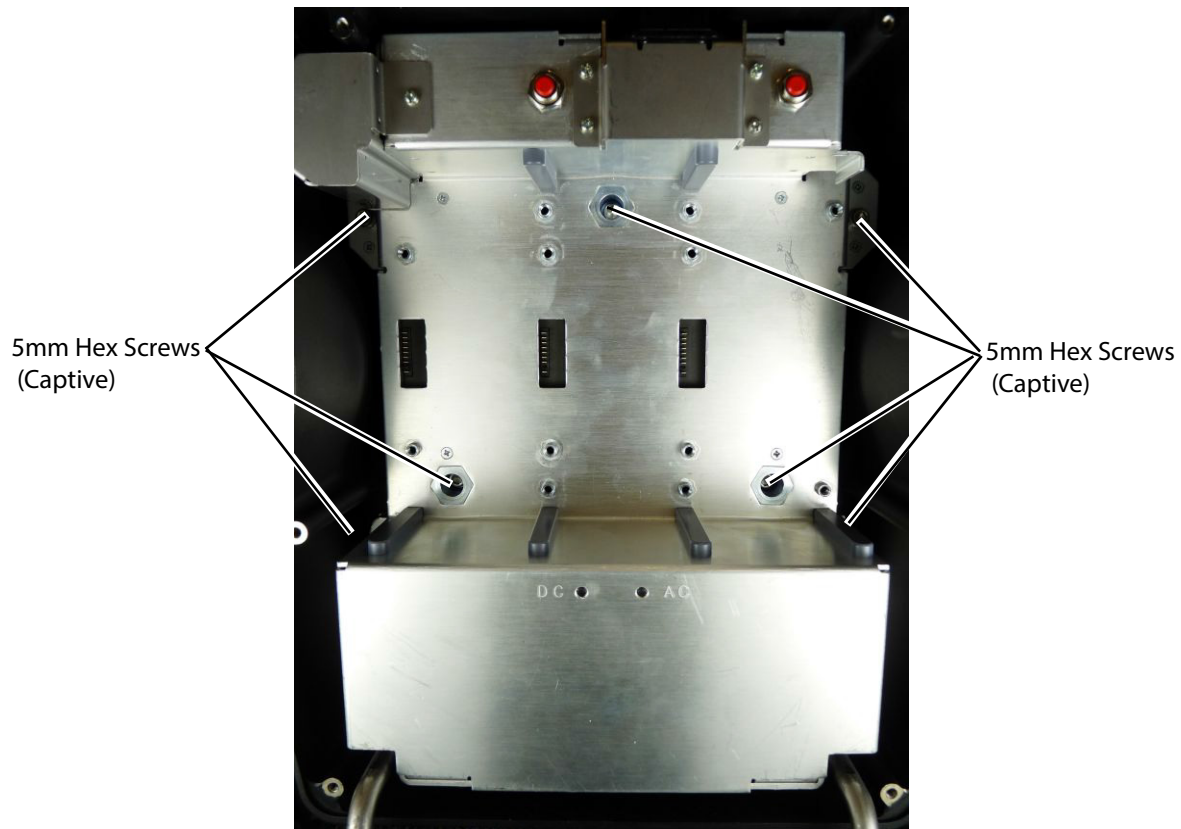

Figure 6.14 SPMU Mount
- 14 Loosen the seven captive 5mm hex head screws securing the SPMU to the bottom of the stand and pull away from the stand. Considerable effort is needed to break the adhesion caused by the gray thermal pad sandwiched between the heat sink of the SPMU and the bottom of the stand. Refer to Figure 6.14 on page 45.